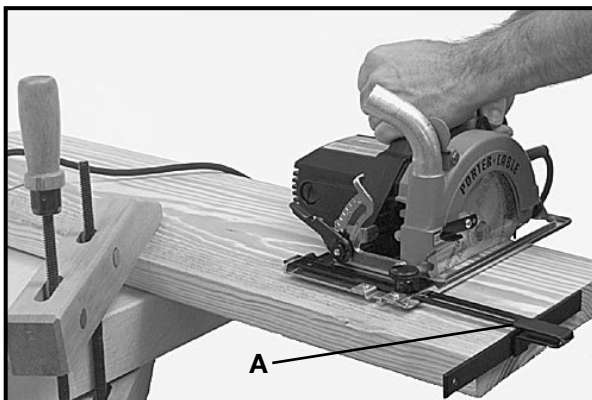

Fig. 13
A rip guide (A), Fig. 13, is available as an accessory. Install rip guide as follows:
For narrow rip cuts, the rip guide, available as an accessory can be used. The saw is guided by keeping the inner face of the rip guide Fig. 13 tight against the edge of the board.